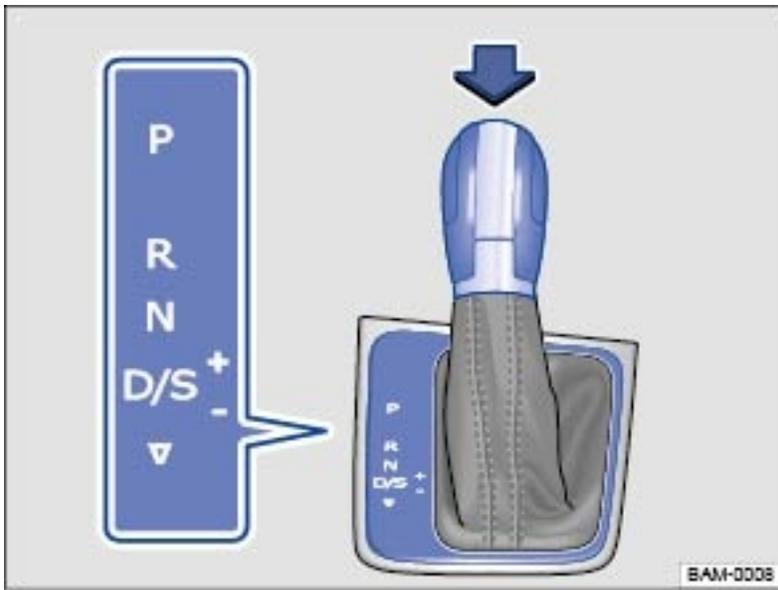

Fig. 139 Automatic transmission selector lever with shift lever release button (arrow).
Automatic transmission vehicles have an Automatic Shift Lock (ASL). With ASL, you must switch on the ignition, depress the brake pedal and hold it down while pressing the release button on the selector lever handle in the direction of the arrow → Fig. 139 to move the selector lever out of Park (P) and into a drive gear. When the selector lever is in Neutral (N), you also have to depress the brake pedal before you can move the selector lever to position (D/S), or Reverse (R).
Changing gear	<p>Switch between Drive (D) and Sport drive (S) by pulling the selector lever once to the rear from gear position D/S → <a href="#">Fig. 139</a>. The selector lever always returns to gear position D/S.</p>